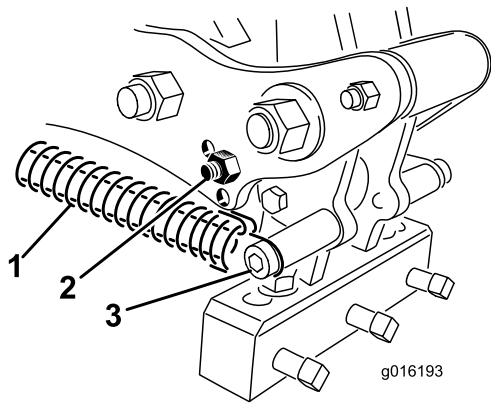

Figure 39
3. Release the spring tension to the tine head (Figure 39).
4. Remove the bumper bolt and bumper from the linkage arm and reinsert them into the other adjustment hole (Figure 39).